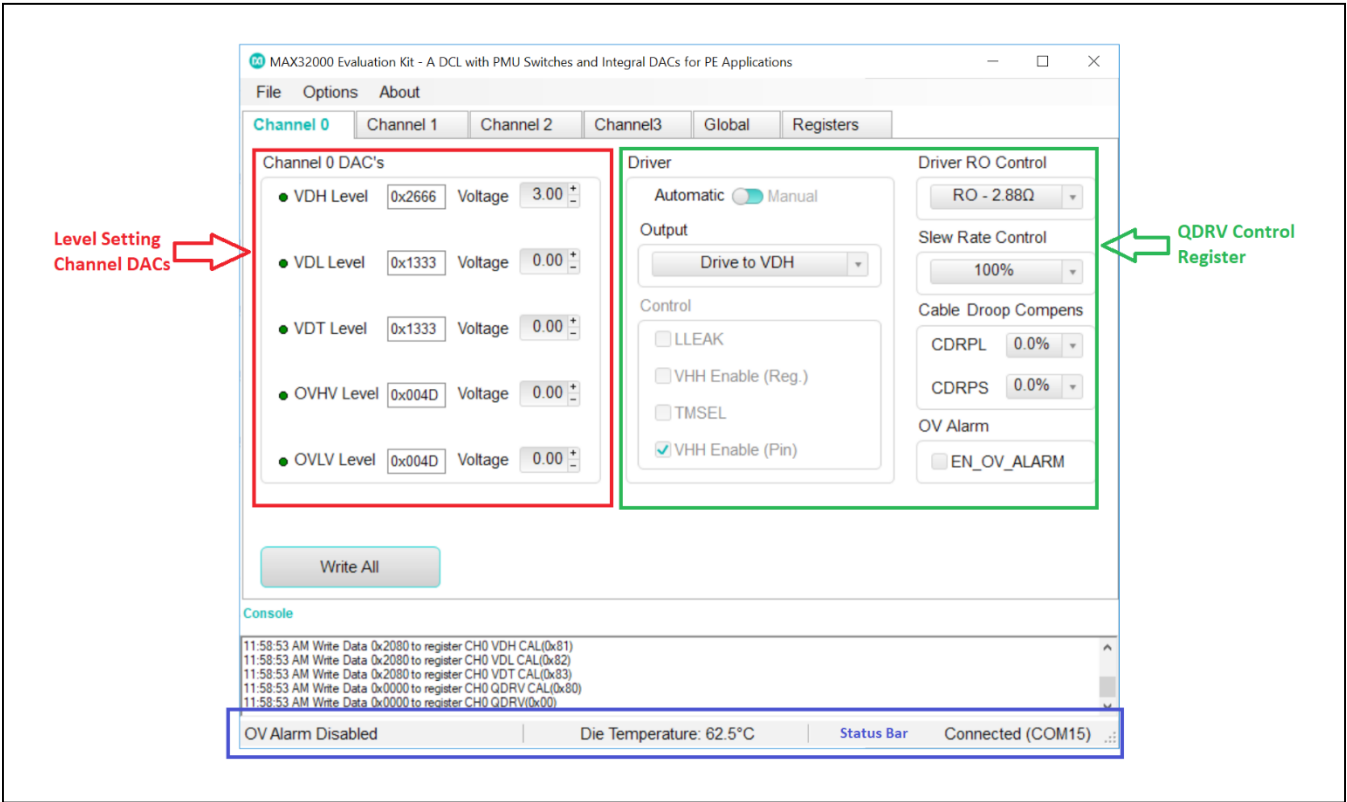
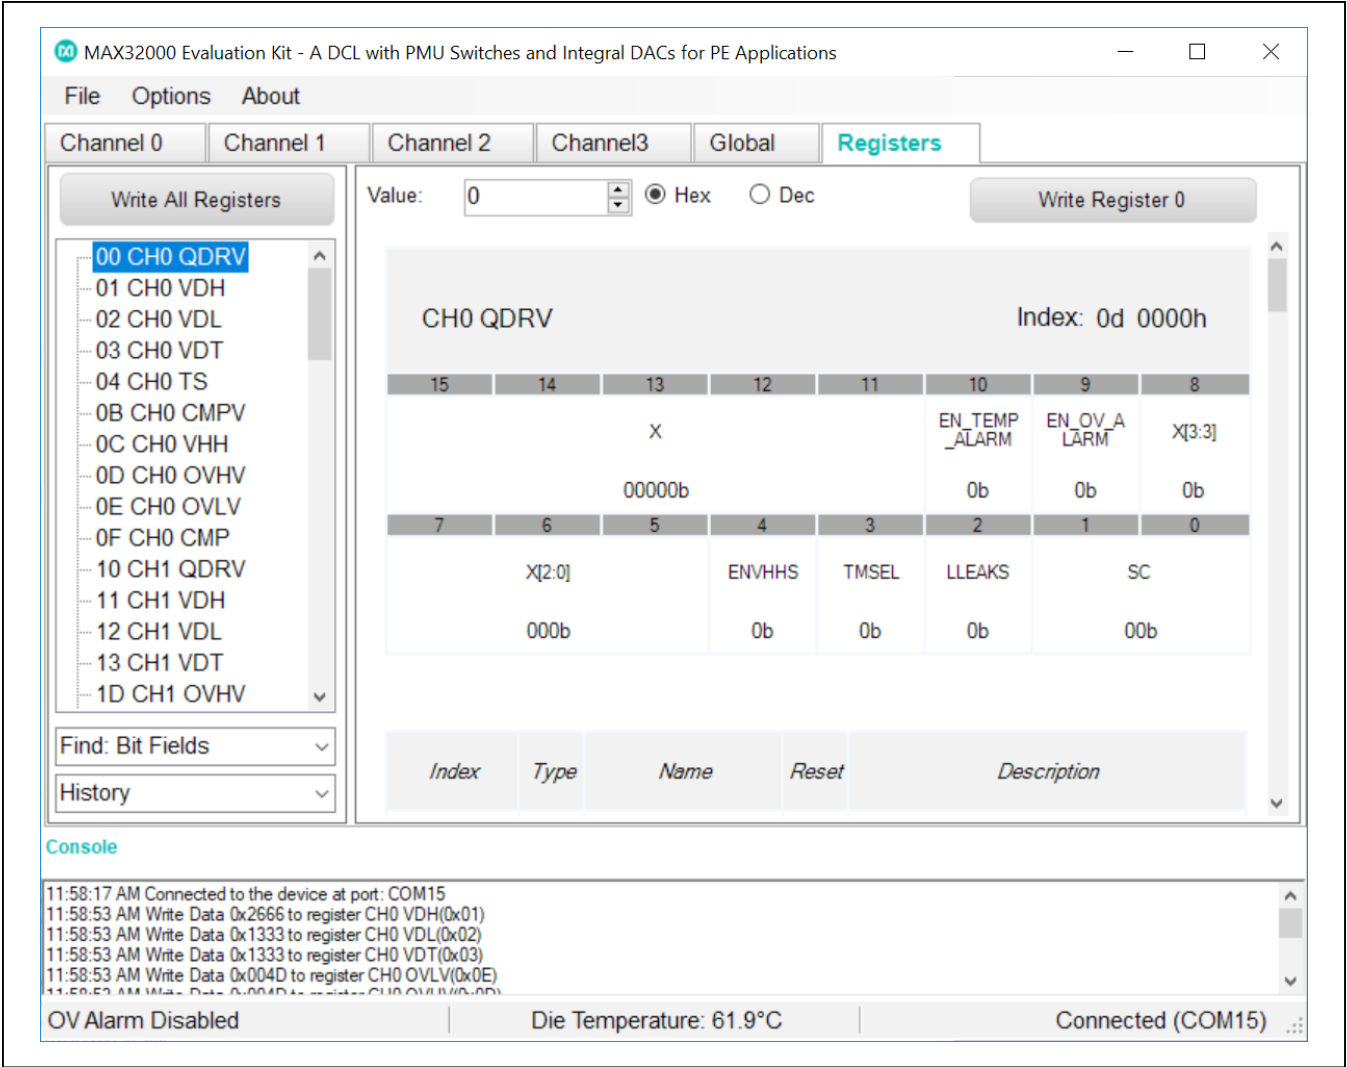

Figure 2. MAX32000 GUI Description (Channel 0 Tab)
Figure 4. MAX32000 GUI—Registers Tab
- 8) Select the COM port and click **Connect**. The MAX32000 GUI should indicate that the EV kit is connected in the status bar (outlined in blue), as shown in Figure 2.
Channel 0, Channel 1, Channel 2, and Channel 3 are identical and control four different MAX32000 channels independently. These tabs contain level-setting channel DACs and the QDRV Control Register, as shown in Figure 2. After setting DAC levels and control signals, click on the **Write All** button to load data into the MAX32000 through the SPI interface.
There are two methods for configuring the MAX32000. The first method is through the GUI, as shown in Figure 2. The second method is through the Registers tab, as shown in Figure 4. The Registers tab allows execution of the serial commands manually. The Register tab can also be used as a debug tool because it is capable of writing to every register of the MAX32000.